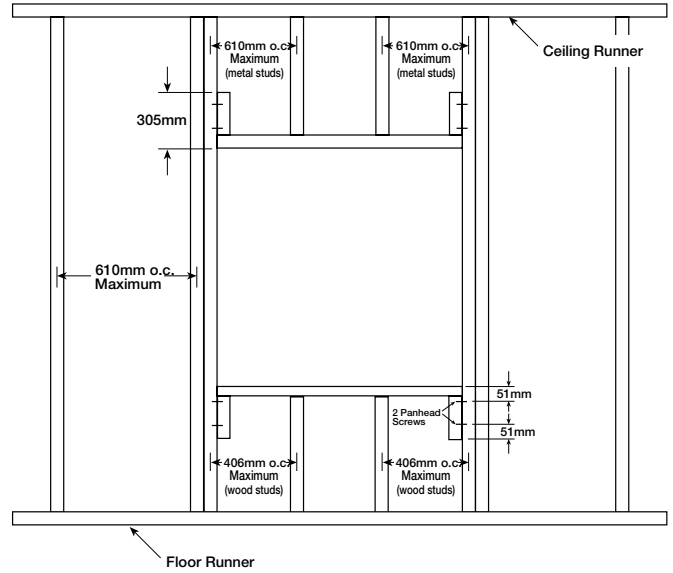

Figure 10: Preparation detail for opening in stud wall.
- Frame wall openings as shown in **Figure 10**.